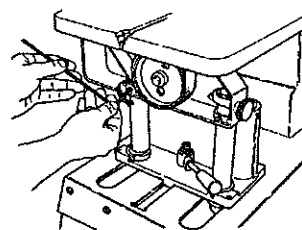

Fig.E-3
8. Loosen the two tube locking setscrews in the Strip Sander's main frame. See Fig.E-3. The setscrews on the carriage's short tube holes should still be loose, also.